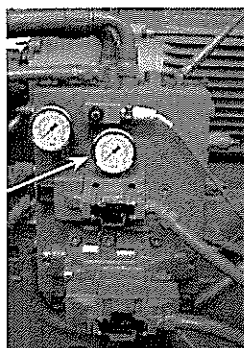

Fig. 31 Plunger directional control valve
Use a Hex wrench to adjust the static relief valve while viewing the static pressure gauge (fig.31). Turning the static relief valve adjustment clockwise raises the static pressure. Turning the adjustment counterclockwise lowers the static pressure.
- **Product too dry, restriction system not unloading** increase the static relief valve pressure setting by adjusting clockwise in increments of 100 psi (viewed on the restriction system static pressure gauge, fig.31). Turning the static relief valve adjustment clockwise increases the force available for the restriction control unloader valve to use in controlling plunger pressure and product dryness.